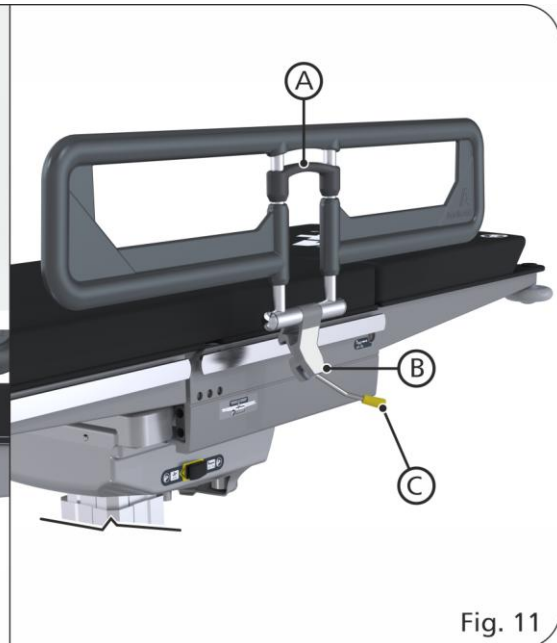
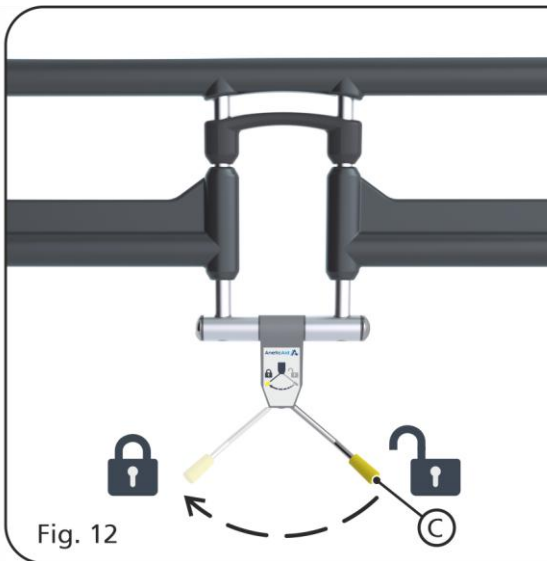

Fig. 11
Fig. 12
The trolley is supplied with two single piece siderails that attach directly onto the side bar. To attach the siderail (fig. 11); holding the siderail vertically, pull up on the siderail release handle (A); this will allow the locking clamp (B) to articulate. Holding the locking lever (C), position the clamp (B) onto the siderail, and rotate the locking lever (C) 90° clockwise to lock the siderail in position (fig. 12).